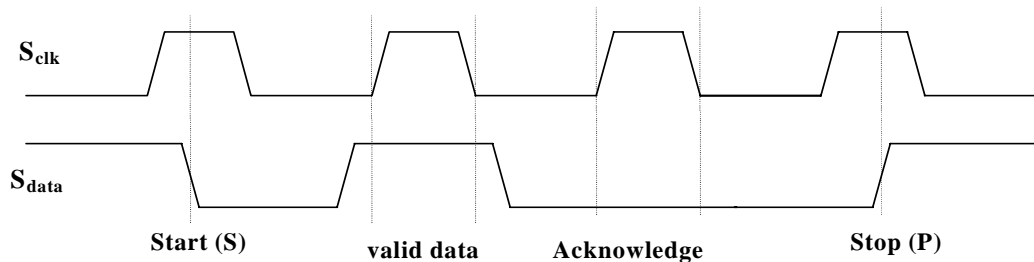

Figure 2. Serial Interface Specifications
Figure 2 shows the basic transmission specification. To begin and end a transmission, the master device generates a start signal (S) and a stop signal (P). Start (S) is defined as switching the Sdata from HIGH to LOW while the Sclk is at HIGH. Similarly, stop (P) is defined as switching the Sdata from LOW to HIGH while holding the Sclk HIGH. Between these two signals, data on Sdata is synchronous with the clock on the Sclk. Data is allowed to change only at LOW period of clock, and must be stable at the HIGH period of clock. To acknowledge, drive the Sdata LOW before the Sclk rising edge and hold it LOW until the Sclk falling edge.
Figure 2 shows the serial interface transfer format used with the CY2213. Two dummy bytes must be transferred before the first data byte. The CY2213 has only three bytes of latches to store information, and the third byte of data is reserved. Extra data will be ignored.